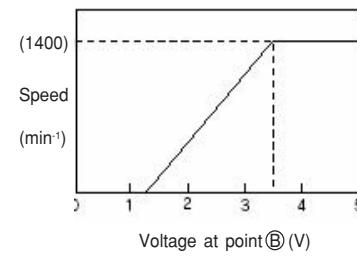

Fig. 7-3
- Fig. 7-3 shows the relation between the voltage at the point B and the speed. (Some differences will occur due to the condition of the unit.)
- The fan motor outputs the feedback pulse of the speed, which is input into the pin (14) on the micro computer. This pulse is equivalent to a frequency of 12/60 speed. (Example: $1000 \text{ min}^{-1} \times 12/60 = 200 \text{ Hz}$)